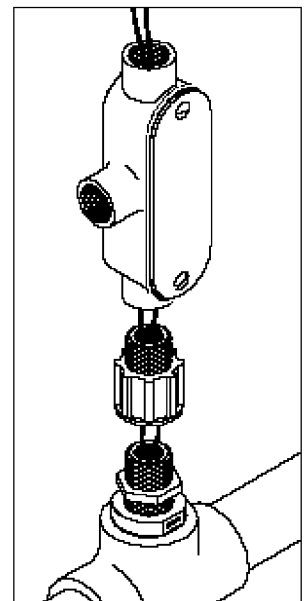

FIGURE 4
6. Pass wires to the controller through threaded nipples, union and access tee. Leave vent open on access tee. Refer to Section 6, Diagram 2, page 25. (Figure 4)